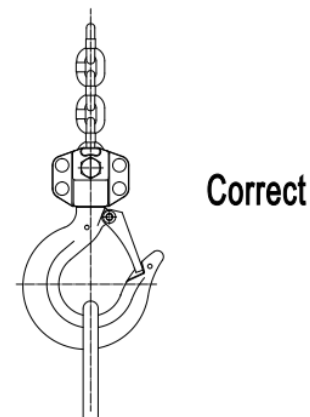

Figure 7
3. Correctly center the load on the bottom hook (Figure 7). Incorrect loading is dangerous to the operator, the lever hoist, and the load.